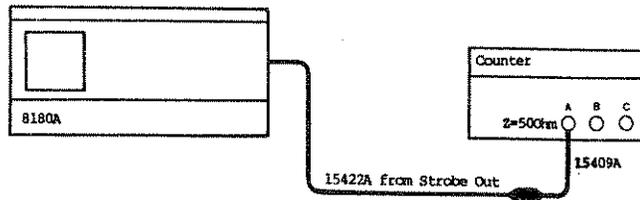

Figure 4-1 Clock Frequency Test Setup
6. Connect equipment as shown in figure 4-1 and press RUN.